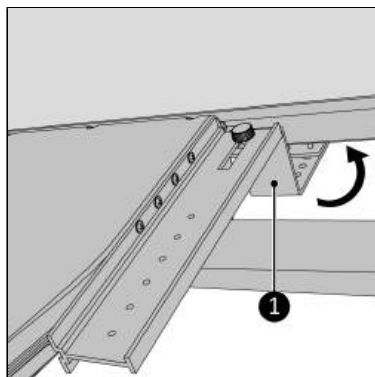

Figure 98.
- Hook the bracket around the outward turning part of the window frame (Figure 98, pos. 1).